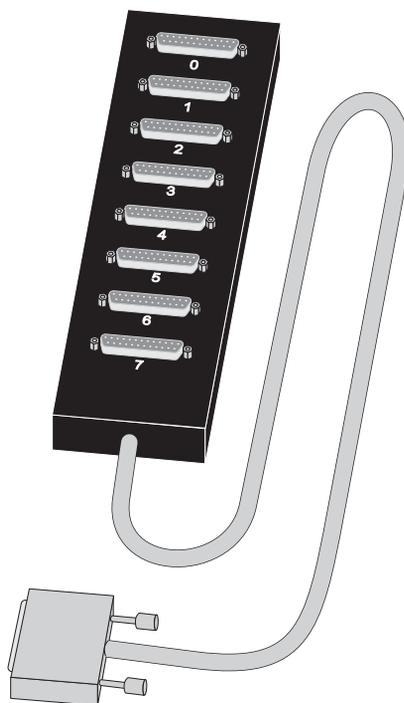

FIGURE 3-1 Eight-Port Connector Box
- FIGURE 3-1 Eight-Port Connector Box 10
SunSAI/P boards are shipped with a connector box (FIGURE 3-1) that provides eight female DB-25 EIA-232 connectors wired for data terminal equipment (DTE) operation.